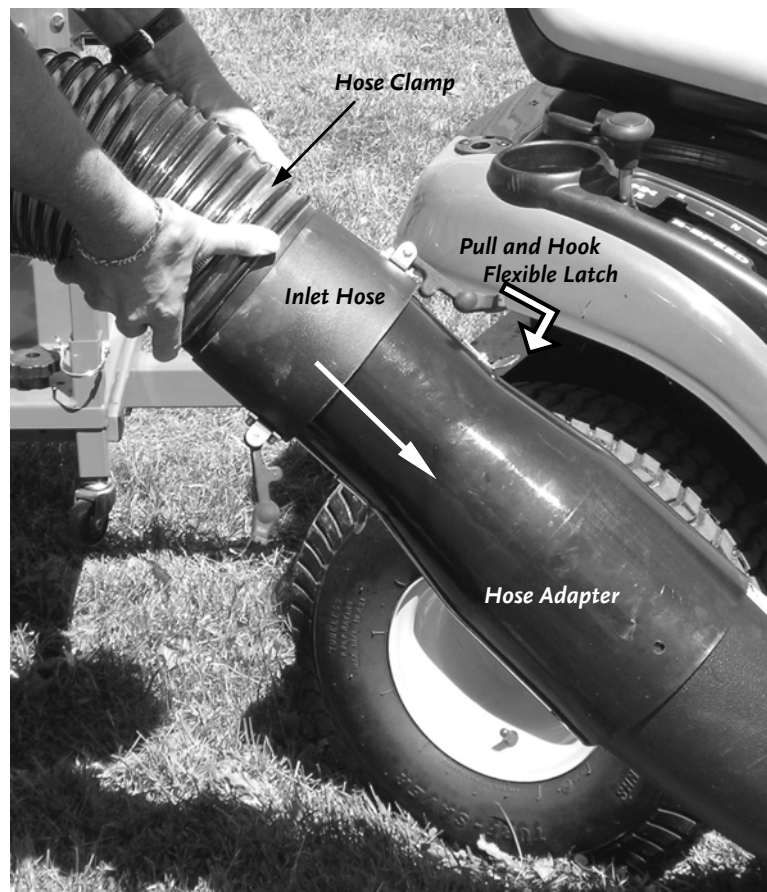

Figure 16
1. Connect the Hose from the Blower Inlet to the Hose Adapter by aligning the two (2) Flexible Latches and slipping the end of the Hose over the Hose Adapter (**Figure 16**).
2. Pull and hook the two (2) Flexible Latches into place (**Figure 16**) to secure the Hose.
3. Make sure to securely attach the Blower Inlet Vacuum Hose to the Hose Adapter (**Figure 16** on page 23).